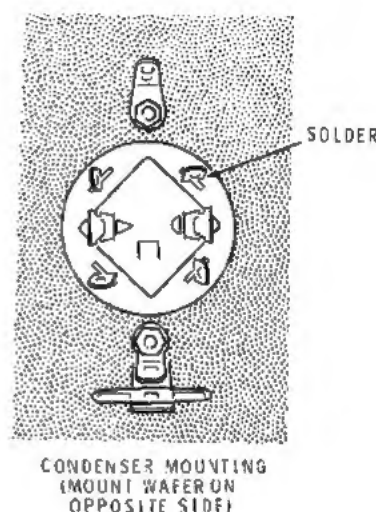

Figure 8
- () Mount the 1000-1000 μ fd condenser on the mounting wafer in position T. The manner of mounting is shown in Figure 8. Secure the condenser to the wafer by twisting each of the four mounting lugs about 1/8 turn with the pliers. Hold the condenser firmly against the wafer while twisting the lugs.